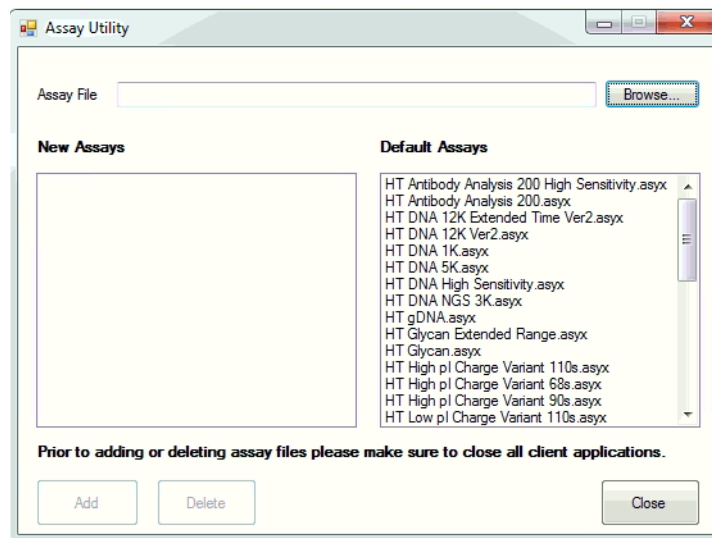

Figure 15. Assay Utility Window
- 4 If you are prompted to allow the program to make changes to your computer, click the **Yes** button. The Assay Utility window opens as shown in Figure 15.